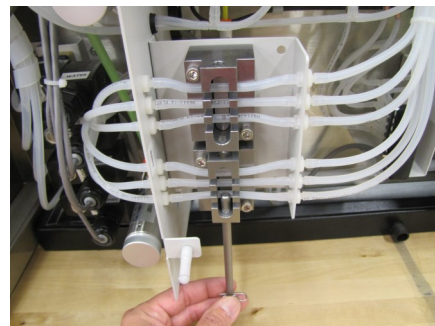

Figure 10
8. Replace the Pinch Bar into the Pinch Valve Guide Blocks, making sure that the tubes are pressed back into the appropriate slots. See Figure 10.